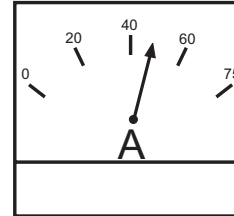

Figure 48. Ammeter (Load)
16. Observe the generator's ammeter (Figure 48) and verify that it reads the anticipated amount of current with respect to the load. Remember the ammeter will only display a current reading if the load is in use.